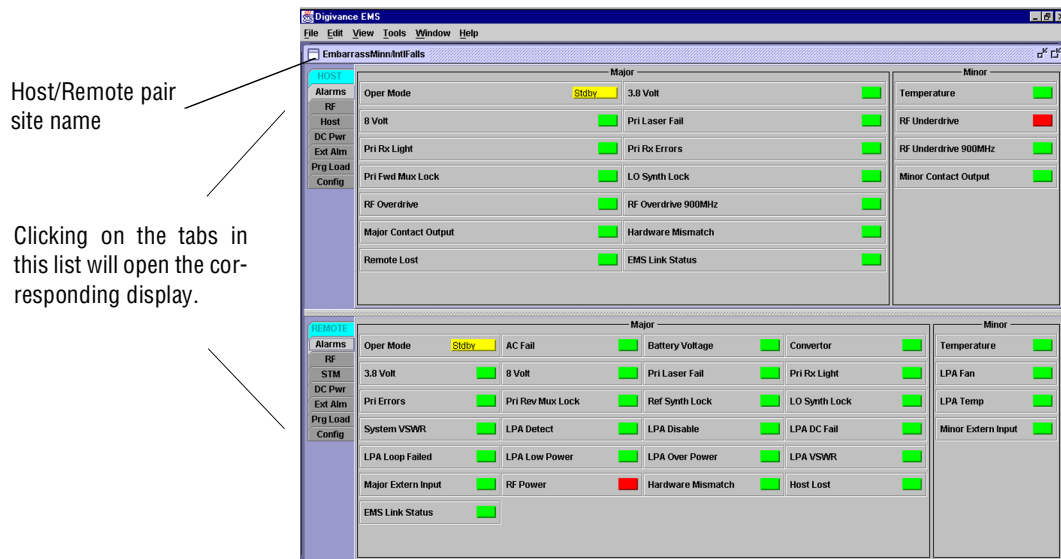

Figure 3-2. Selecting Display Tabs
9. Open the **View** drop down menu and connect to the Host and Remote pair by selecting the “NotNamed/NotNamed” Host/Remote pair. The **HOST Alarms** display and the **REMOTE Alarms** display will open within the main window as shown in Figure 3-2.
11. Click on the **HOST Config** tab and on the **REMOTE Config** tab (see Figure 3-2). The **HOST Config** display and the **REMOTE Config** display will open within the main window.
15. Click on the **HOST RF** tab (see Figure 3-2). The **HOST RF** display will open within the main window.
20. Click on the **REMOTE RF** tab (see Figure 3-2). The **REMOTE RF** display will open within the main window.
22. Click on the **HOST RF** tab (see Figure 3-2). The **HOST RF** display will open within the main window.